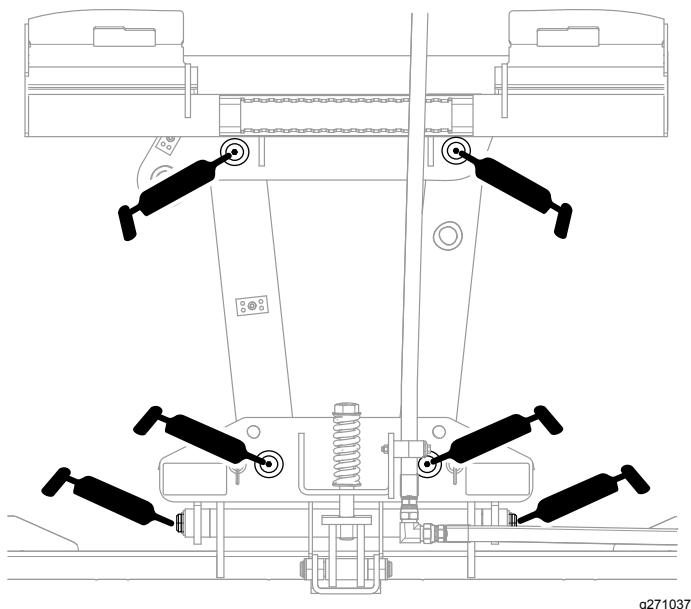
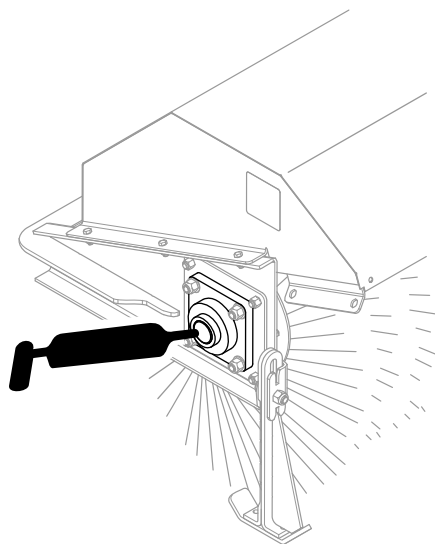

Figure 9
Figure 10
5. Grease the fittings and bearing shown in Figure 9 and Figure 10.